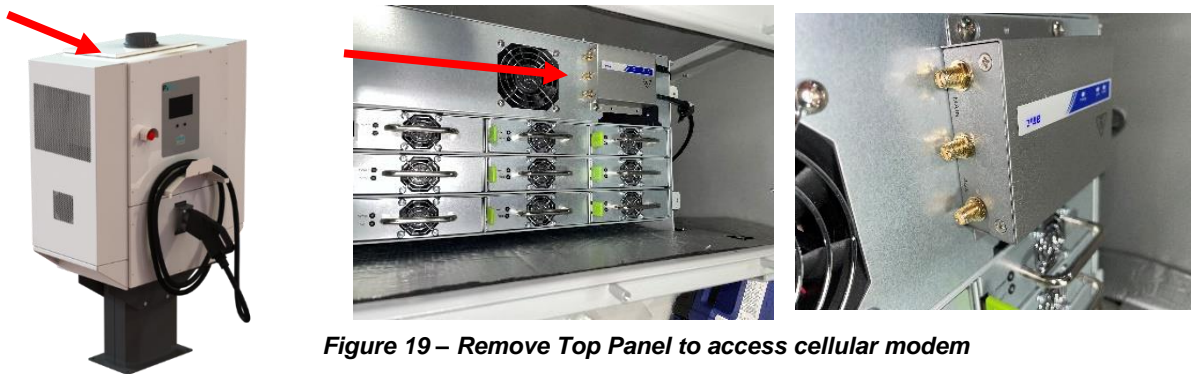

Figure 19 – Remove Top Panel to access cellular modem
2. If EV charger's Top Panel is closed: (1) open it by removing screws around perimeter using T25 Torx t-handle screwdriver, (2) temporarily disconnect cables from modem as needed to free top panel, and (3) set top panel and screws aside (Figure 19).